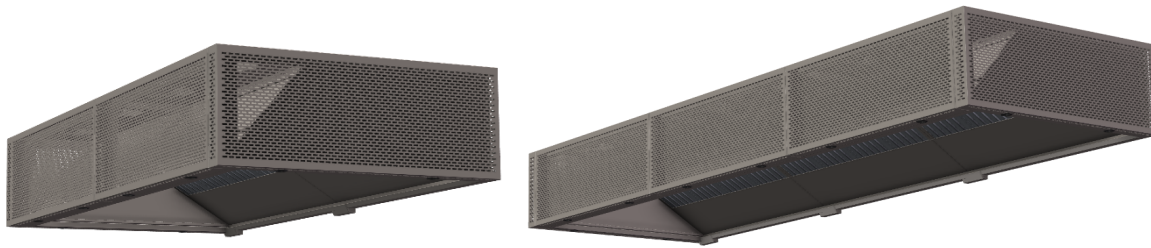

Figure 3 3D view OPTI units with two and three centre modules
- Exhaust air can be adjusted on some models with a similar mechanism as in detail E Figure 6 but located at the centre of the module. If it is possible you can do this before fitting the light cover (2009A,B). If necessary exhaust flow can be further adjusted by fitting sliding plates. Part labelled 5 in Figure 3 can be used (OPTI 2008E).